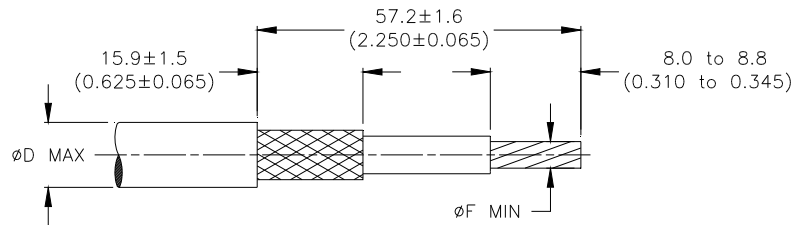

Figure 1
- b) Prepare both cables as shown in Figure 1. All center conductors are prepared the same regardless of size or number.